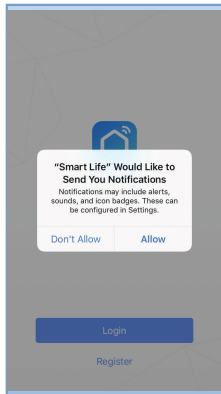

fig 2.1
- Open "**SMART LIFE**" application, click "Allow" on the pop up notification dialog(fig 2.1)